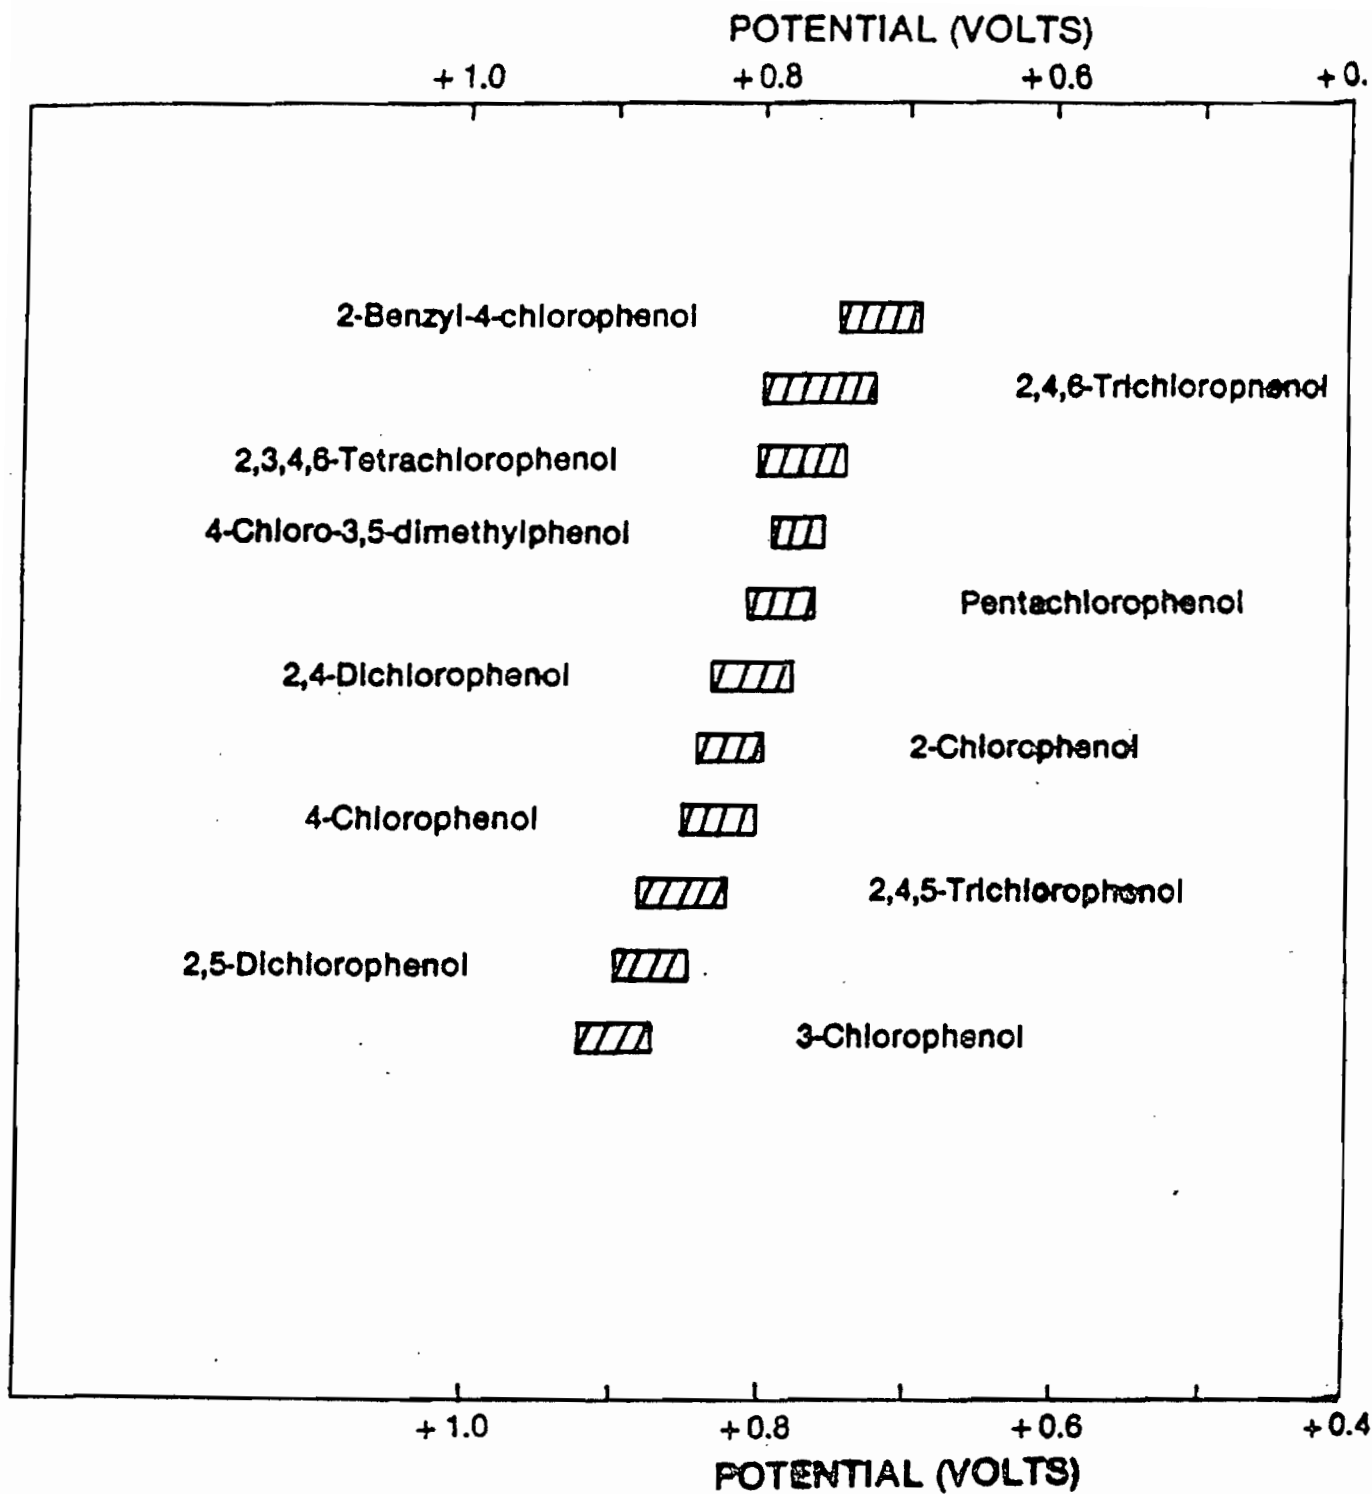

Figure 4 Oxidative Cyclic Voltammetric Data for Selected Chlorophenols of Environmental Interest.
- Figure 4 Oxidative Cyclic Voltammetric Data for Selected Chlorophenols of Environmental Interest.